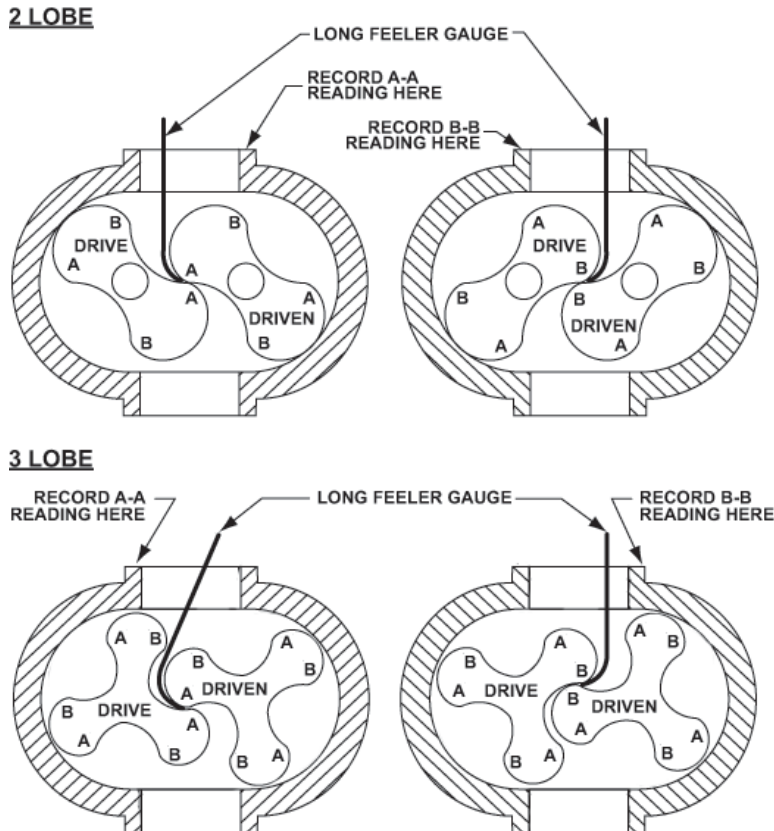

Figure 8-15 – Checking Rotor Interlobe Clearances
1. Use feeler gauges to take interlobe readings, and record them on each side of housing as indicated in **Figure 8-15**. As shim is removed or added behind the helical gear, the gear rotates as it is moved in or out and the driven rotor turns with it, thus changing the clearance between rotor lobes.
**EXAMPLE:** Referring to **Figure 8-15**, check the clearance at AA (right-hand reading) and BB (left-hand reading). If the AA reading is 0.009 in. (0.23 mm) and the BB reading 0.003 in. (0.08 mm), adjust by removing 0.006 in. (0.15 mm) shims from the driven rotor. The readings will change one half the amount removed: 0.003 in. (0.08 mm). AA should then read 0.006 in. (0.15 mm) and BB should read 0.006 in. (0.15 mm). The final readings should be within 0.002 in. (0.05 mm) of each other.